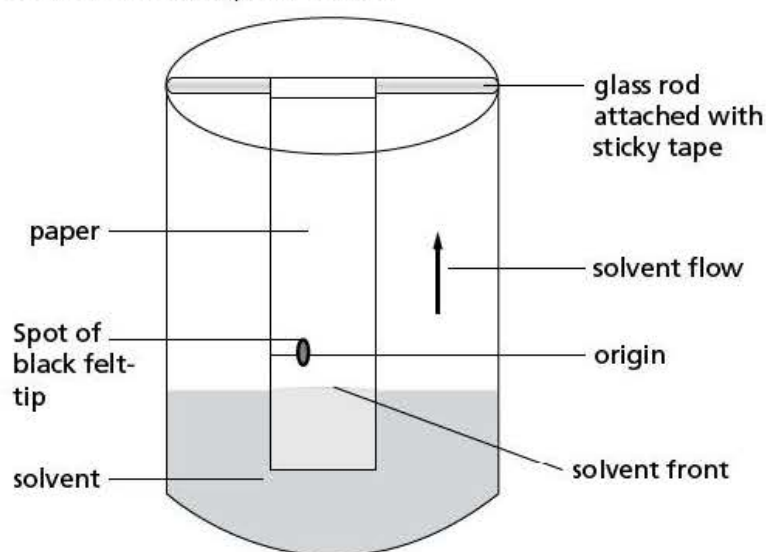

Figure 2
- 3 Put 0.5 cm depth of an equal mixture of water and ethanol in the bottom of a 250 cm³ beaker and hang the chromatography paper as shown in Figure 2. Cover the apparatus with an inverted plastic bag.